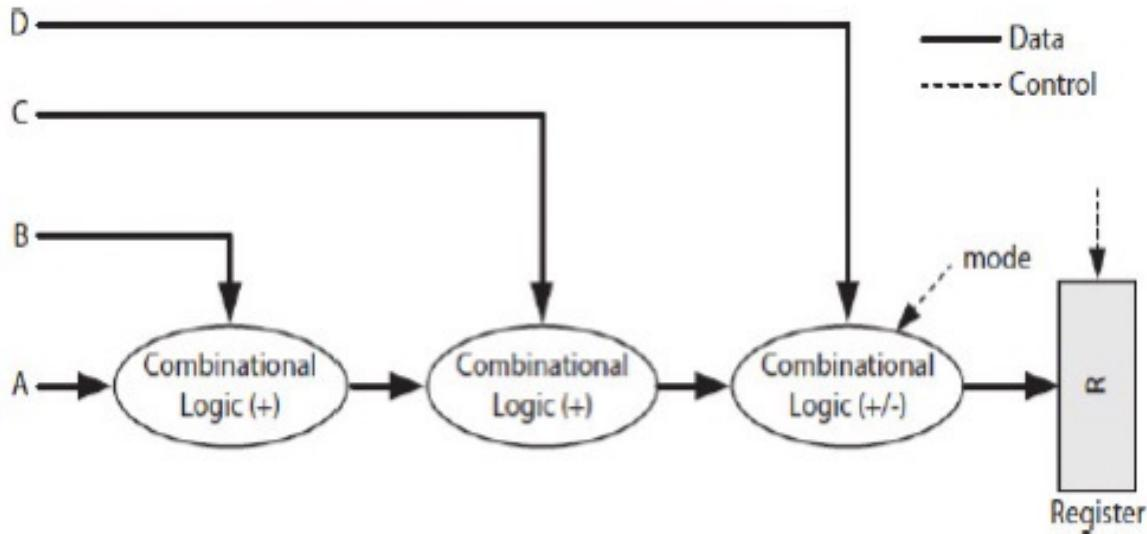

FIGURE 6.2 A single-cycle two-function data path that computes either $A + B + C + D$ or $A + B + C - D$ in one clock cycle.
- Single-cycle data path in Fig. 6.2.